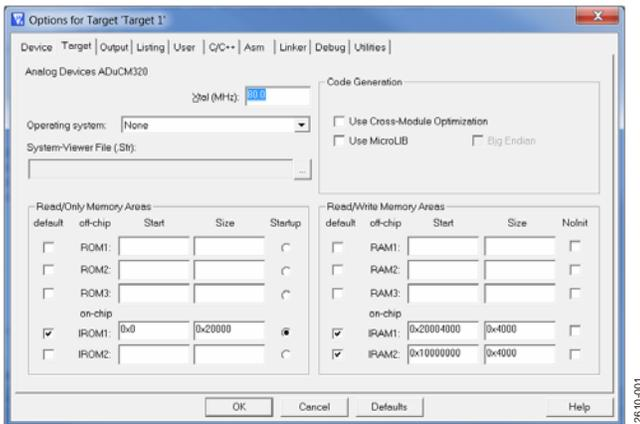

Figure 1. Selecting Memory Ranges
1. Click **Project/Options for Target "Target 1"** to open the window shown in Figure 1. Select **IRAM1** and set its start and size to 0x20004000 and 0x4000, respectively. This is the range for non L1 RAM. Select **IRAM2** and set its start and size to 0x10000000 and 0x4000, respectively. This is the range for the L1 RAM. Leave **IROM1** unchanged to hold the bulk of the code in flash.